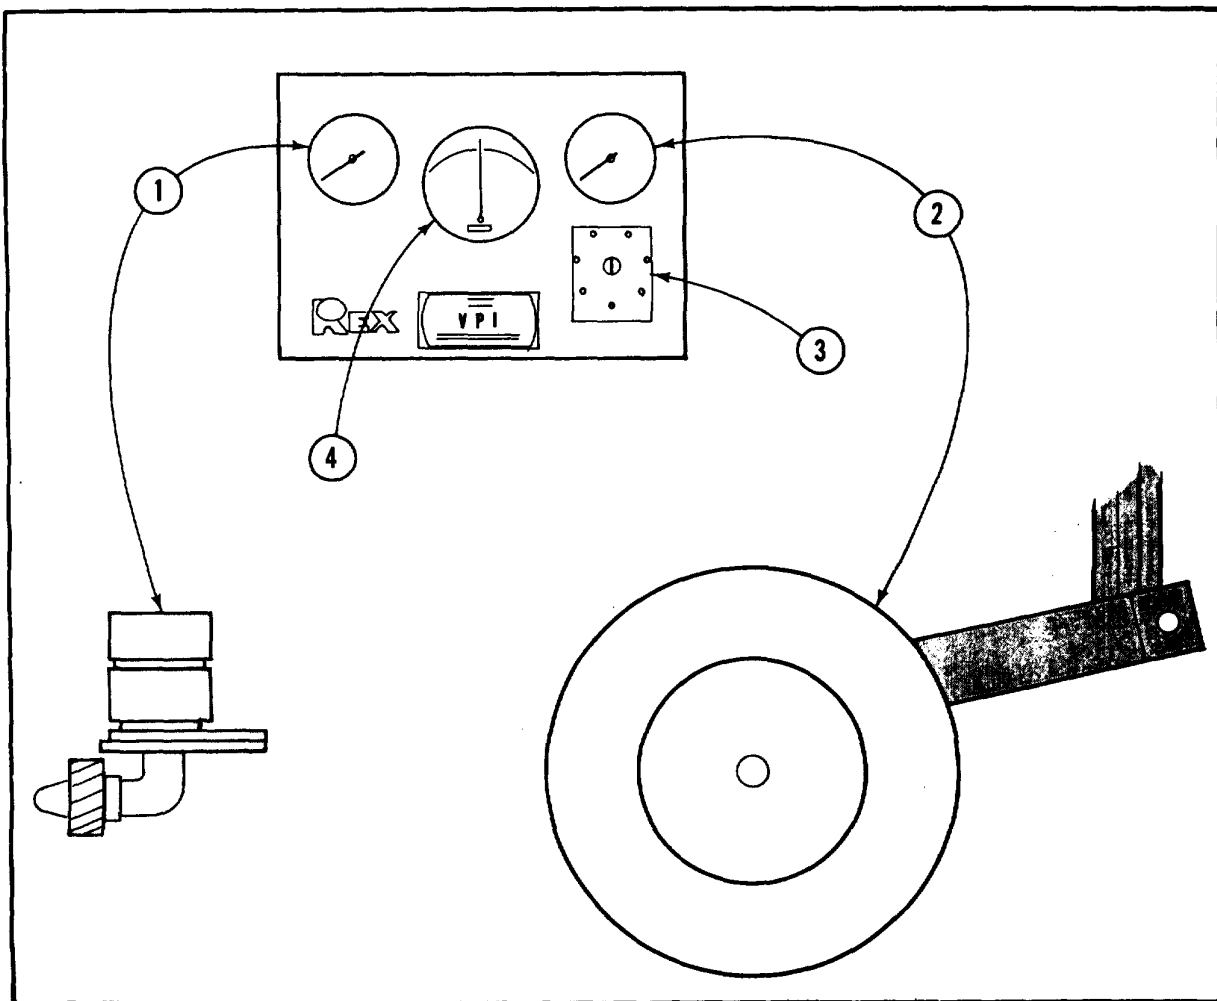

FIGURE 1
The total system, figure 1, can be separated into four (4) basic units consisting of: